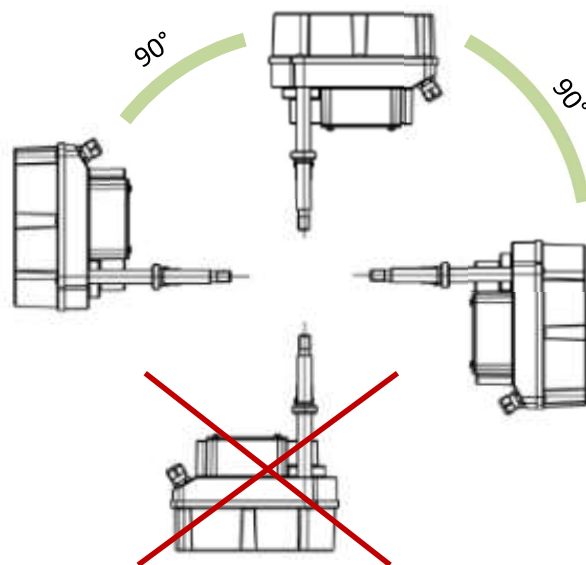

Figure 2: Mounting position
- The mounting position is arbitrary with the exception of “hood downwards” (Figure 2).